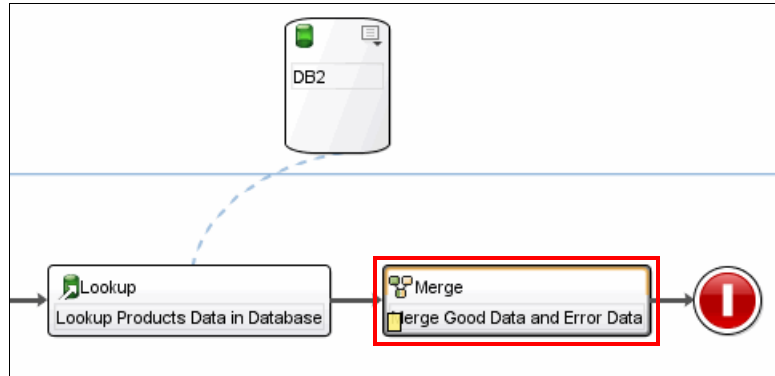

Figure 12-59 Merge activity
1. From the Activities tab drag **Data Quality** → **Merge** to the right of the Lookup activity. Rename it to Merge Good Data and Error Data. Refer to Figure 12-59.